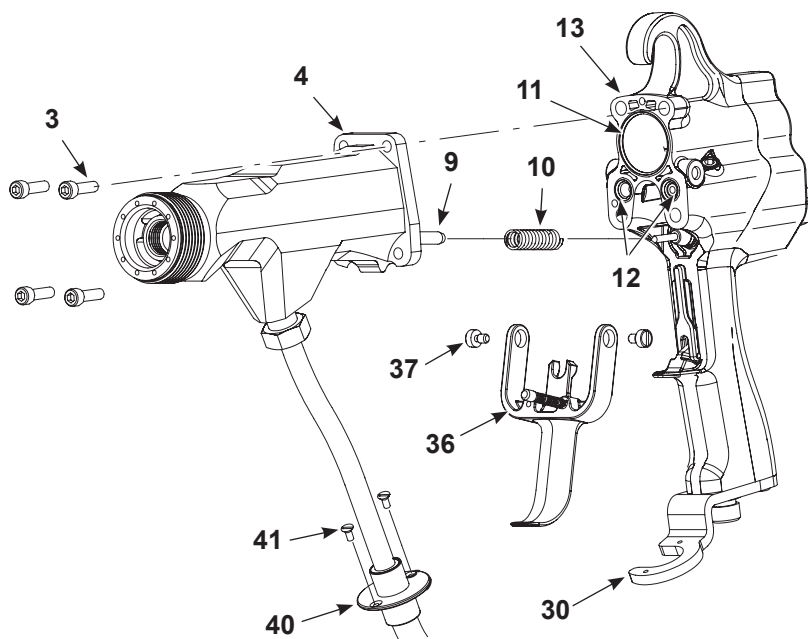

Figure 7-4 Packing Cartridge Replacement - Removing the Extension
3. See Figure 7-4. Remove the two screws (41) and the hose (40) from the hose bracket (30).
4. Remove the two pivot screws (37) and the trigger (36).
5. Use a 5/32-in. hex wrench to remove the four socket-head screws (3). Pull the extension (4) straight away from the handle (13). Do not lose the O-rings (11, 12) installed in the handle.
6. Remove the trigger spring (10) from the trigger puller (9) if it came out of the handle.